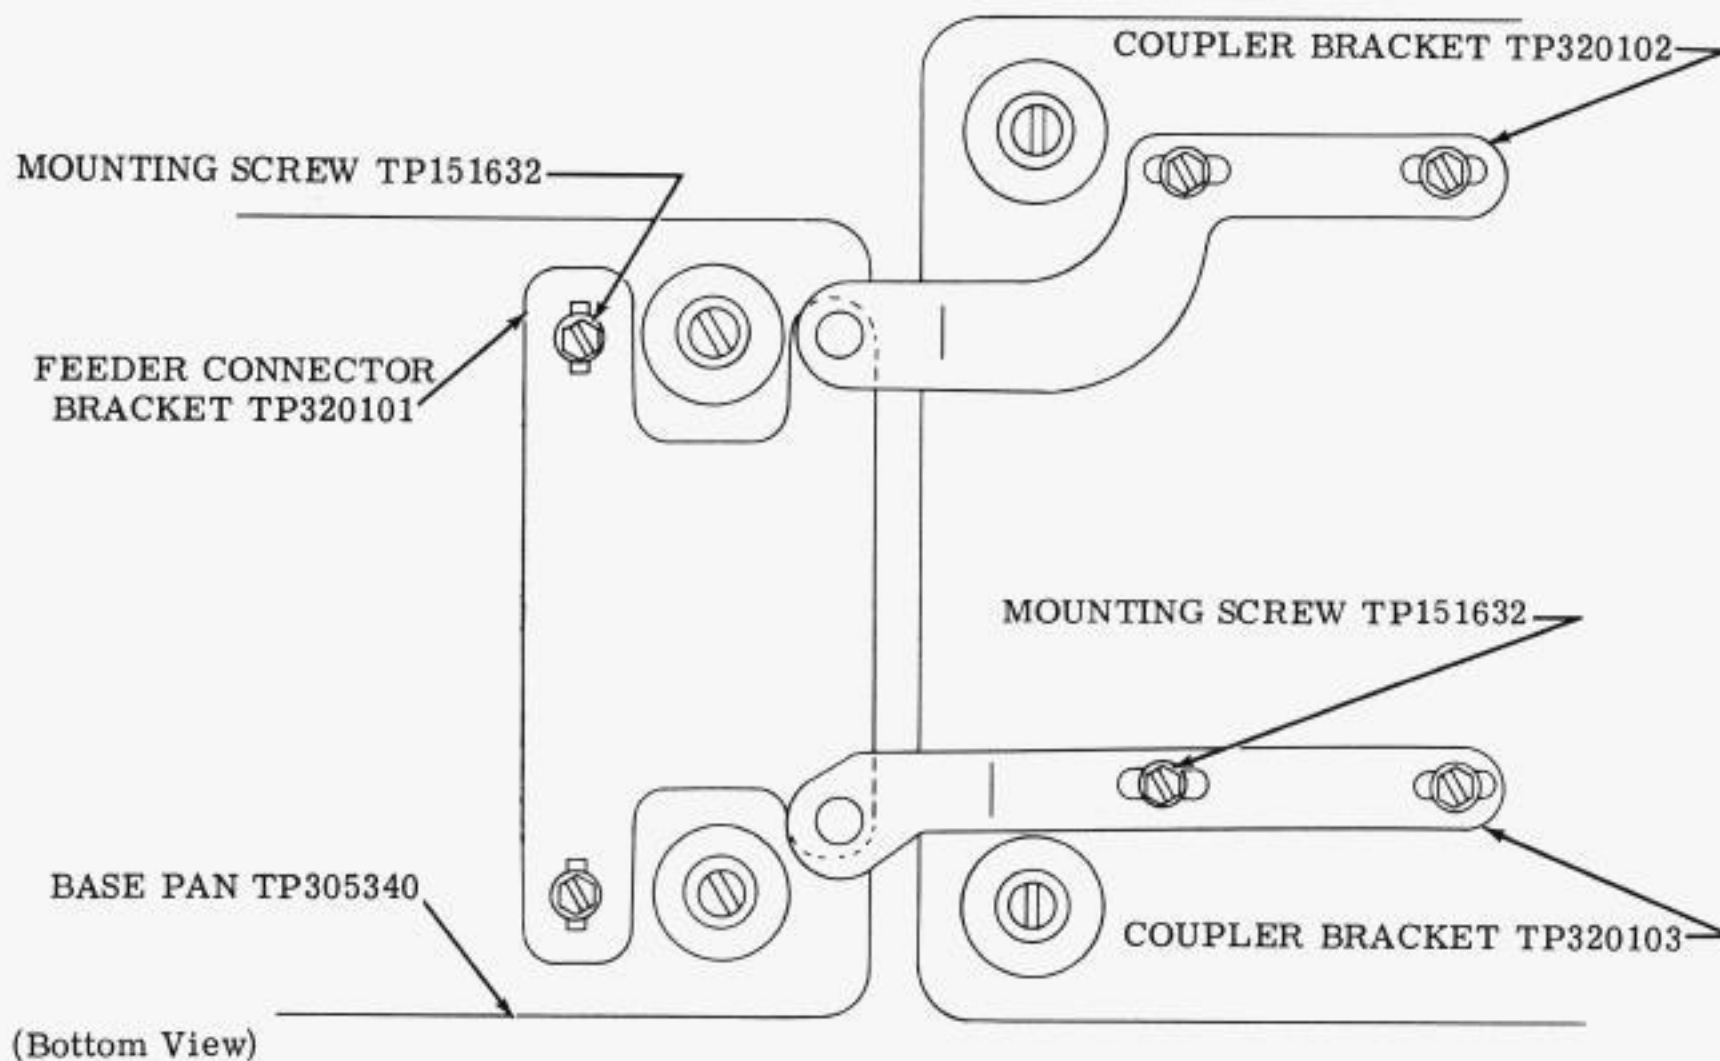
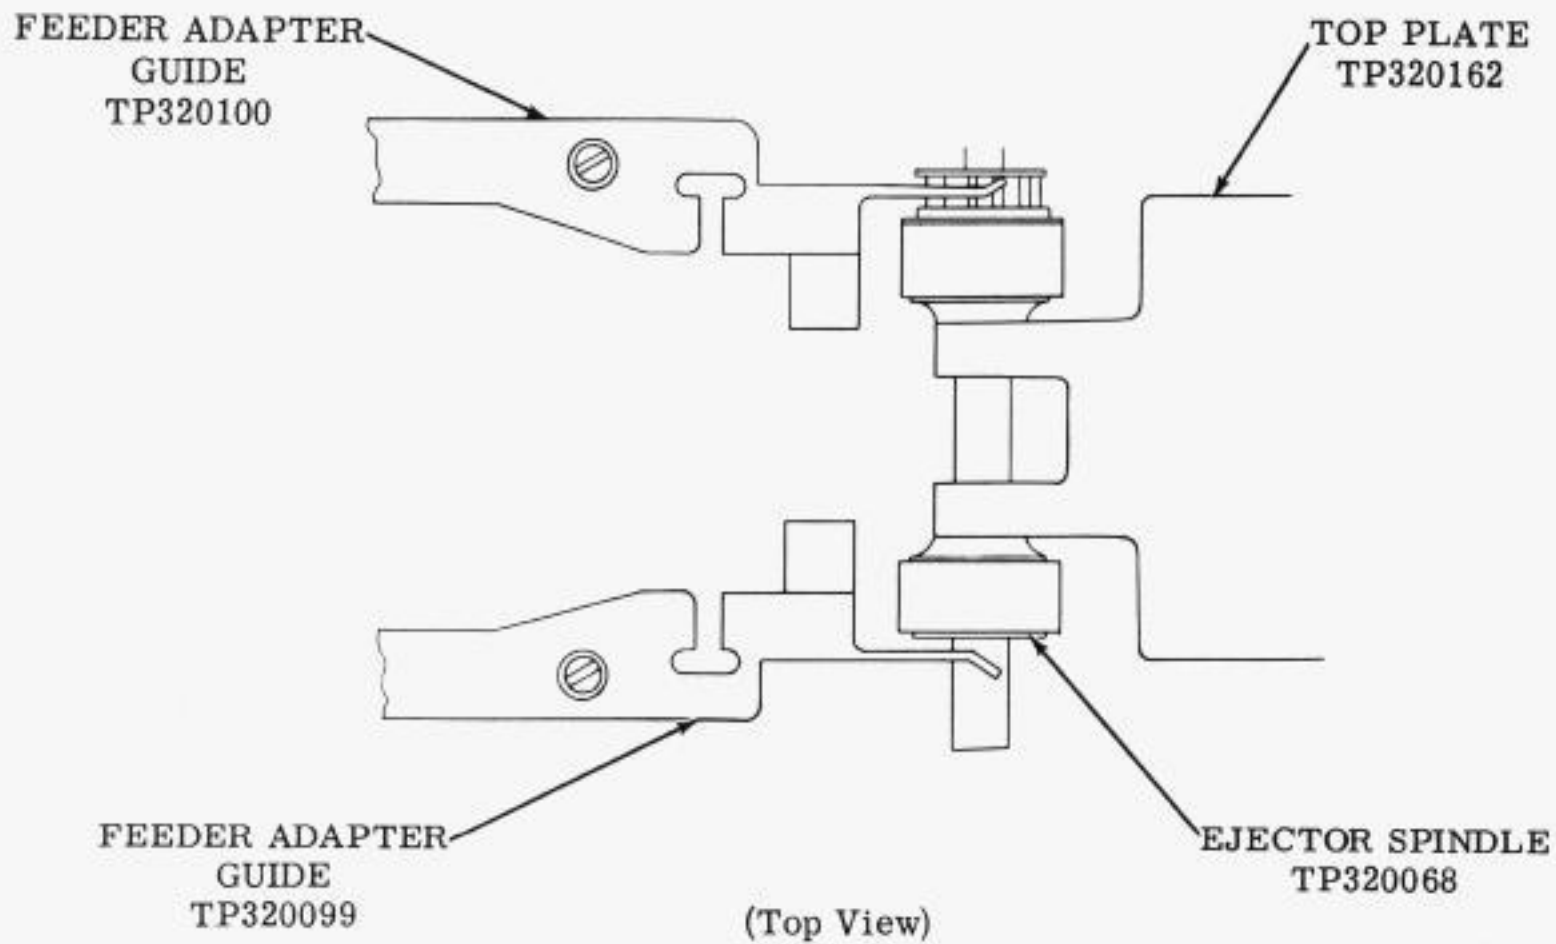

Figure 6 - Reader and Feeder Base Pans and Coupler Brackets
Figure 7 - Feeder Ejector Spindle and Adapter Guides
- 2.06 The two card feeder adapter guides TP320099 and TP320100 replace the present guides on the card reader top plate. These supplied guides are intended for use in installations which do not require the feeder unit (Figure 7).
2.08 Loosen the screws TP151632 on the feeder connector TP320101 to friction tightness (Figure 6). Place the card reader onto the coupler brackets TP320102 and TP320103 of the feeder. Position the card reader toward the front or rear so that the ejector spindle rollers TP320068 of the feeder are centrally located between the ends of the feeder adapter guides TP320099 and TP320100 (Figure 7). Tighten the mounting screws TP151632.